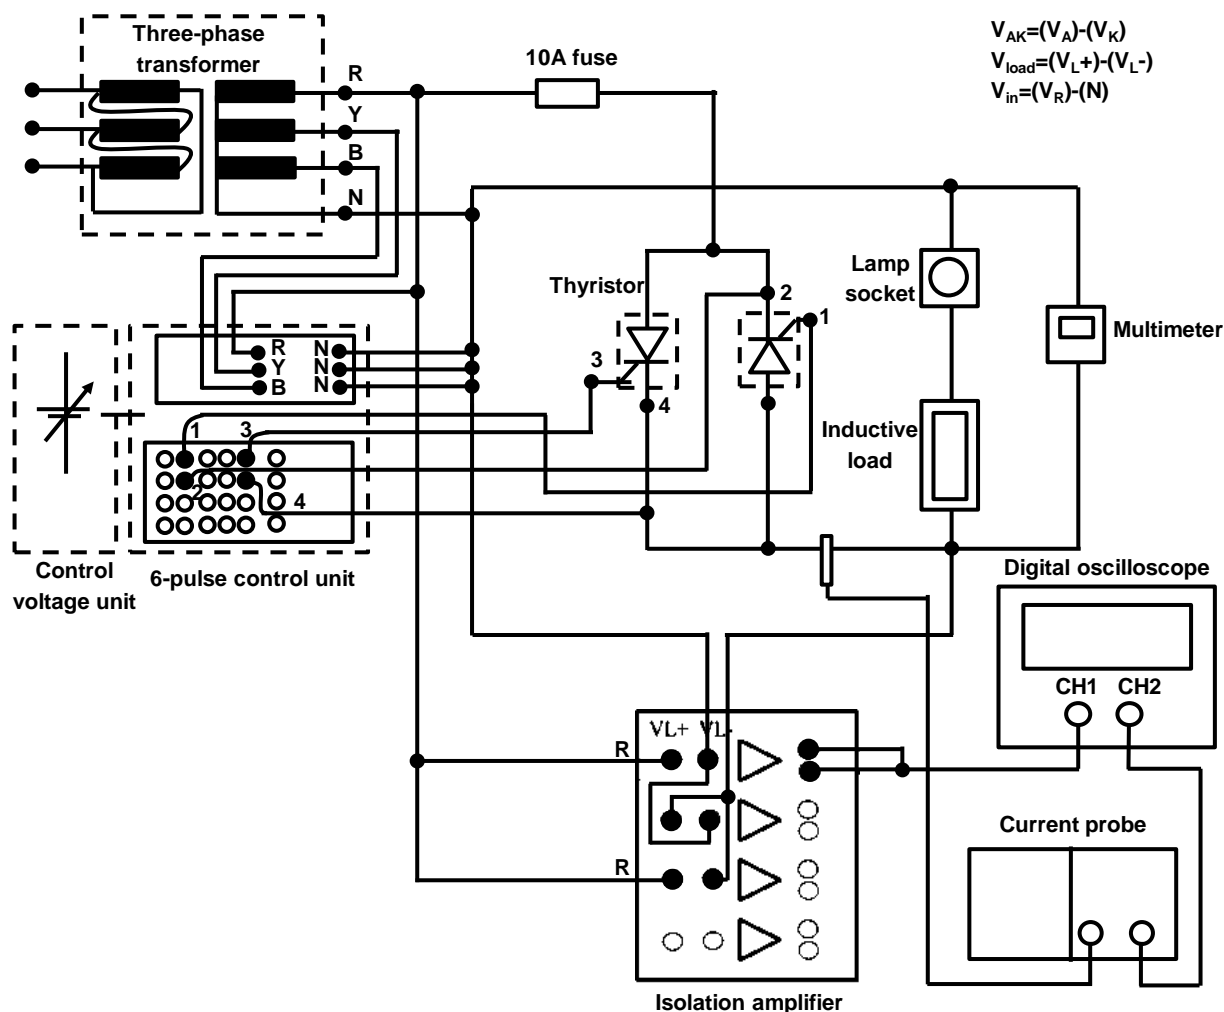

Figure 3
1. Connect the circuit as in Figure 3. Vary the firing angle using voltage control from 0V to 10 V. At each step, measure and record load voltage V_a . Complete Table 3.